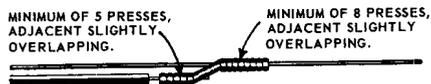

FIGURE 17. Completed Split Sleeve.
- e. Make a minimum of eight presses with the 31-DC Nicopress tool, starting at the inner end of the split portion and working towards the outer end with adjacent presses overlapping slightly so as to result in a complete closure of the seam. When making the last press, the side of the presser jaws should extend slightly beyond the end of the sleeve. The pressing tool should be so positioned on the split sleeve that the seam will coincide with one of the fins formed in the pressing operation. This is necessary to insure a complete closure of the seam. No attempt should be made to remove the fin by pressing a second time. A completed sleeve is shown in Figure 17.